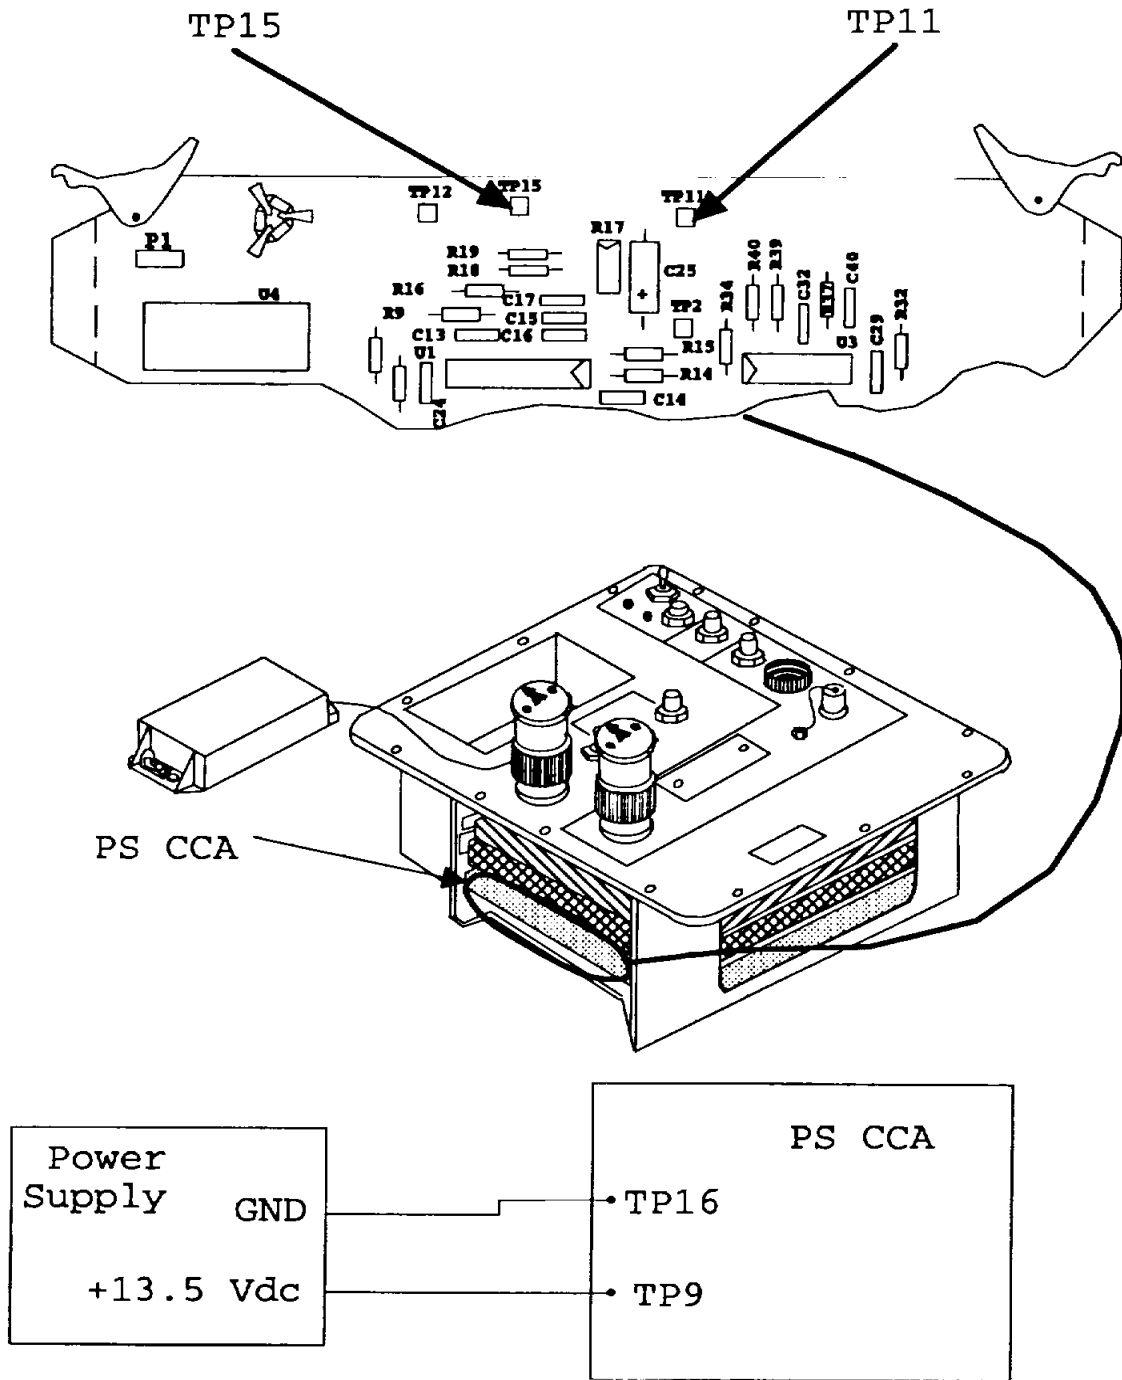

FIGURE 5-3. Location of TP15 and TP11.
(5) Locate test points TP15 (+5 Vdc) and TP11 (GND) on PS CCA (refer to Fig. 5-3).
(6) Install PS CCA in card cage assembly (refer to para. 5-10b).
(7) Turn power supply on.
- (8) Using multimeter, measure output voltage at TP15 with respect to ground, TP11. Reading should be +5 Vdc  $\pm$ 0.25V.